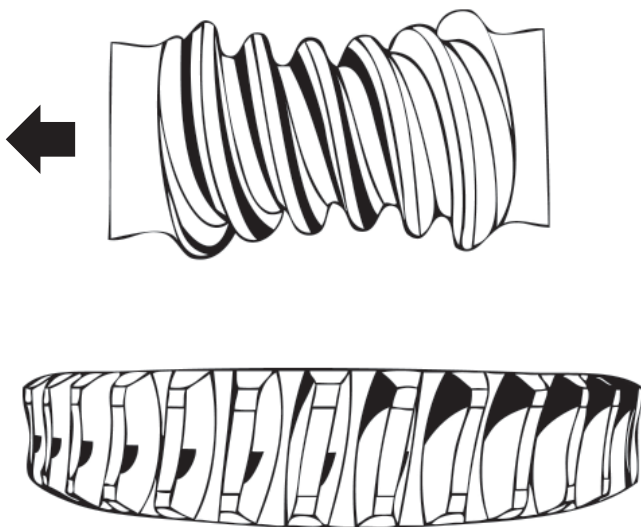

Figure 7
5. All of the illustrations, figures 7, 8, 11, and 12, show a misalignment of the gear set.
7. If contact is similar to figures 7 or 11, the worm is out of position. Move the worm in the direction indicated by the arrow. If the contact pattern is opposite to that shown move the worm in the opposite direction.